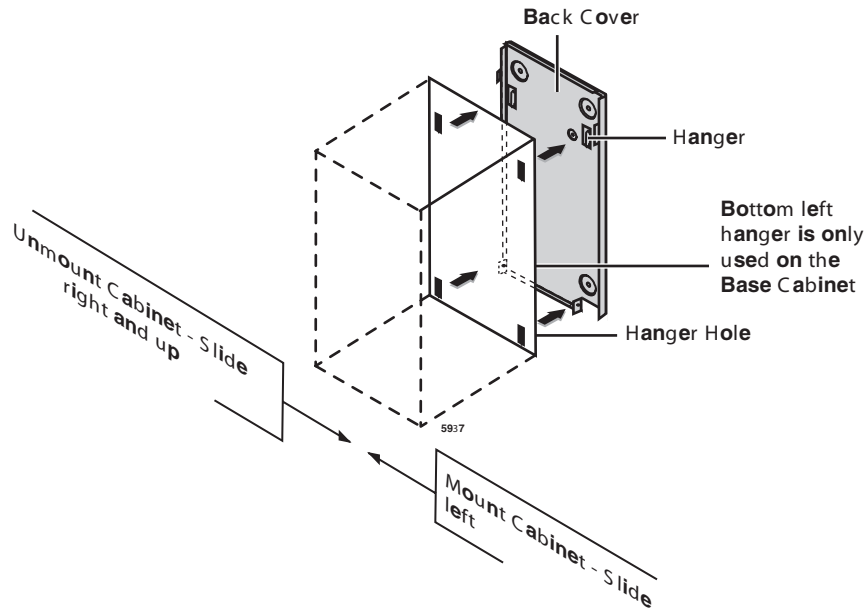

Figure 2-6 Mounting CTX100 Cabinet on Back Cover
7. To mount the Base Cabinet, position the cabinet hanger holes onto back cover hangers (two on top and two on the bottom as shown in Figure 2-6). Slide the cabinet to the left.